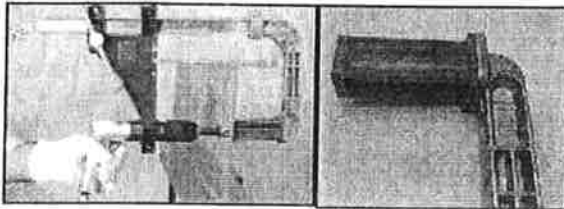

Figure 1
- **Channel Adaptor**- this adaptor is 4 in. (102mm) long and, when used, it positions the leg of the DRILLMATE to fit under the flange of a channel or "I" beam, for drilling into the main web area. **See Figure 1.**